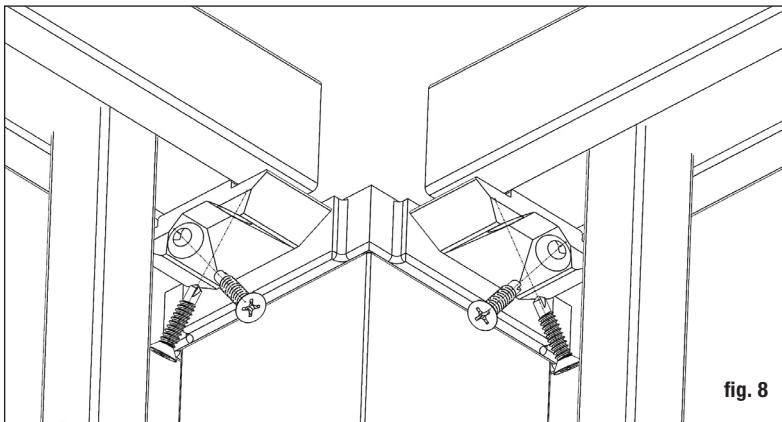
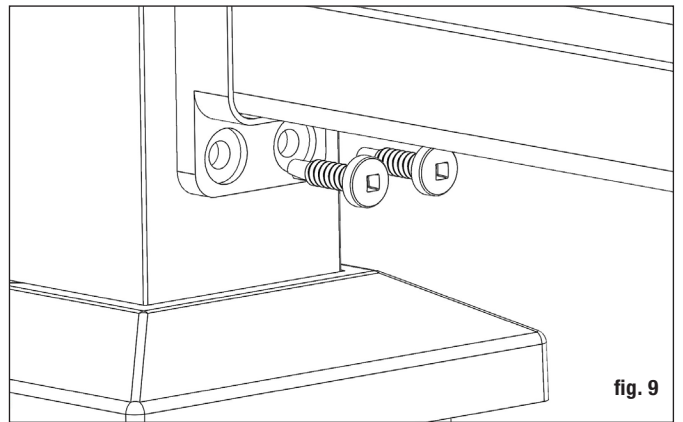

fig. 8
fig. 9
Step 7 Position the rail between the posts. Check for level end-to-end and vertically. Pre-drill rail using a 7/64" drill bit. Attach brackets to the post at one end. Repeat for the other end. *Note: Use a driver extension bit to avoid marring the rail with the drill chuck* (fig. 8 and fig. 9).